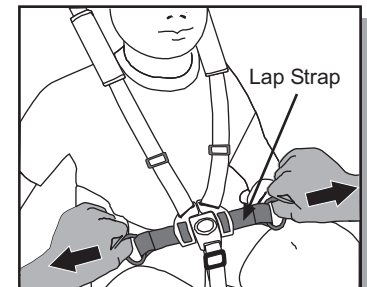

Fig. 20 Tighten Lap Straps.
- f. Tighten lap straps. Adjust lap straps to fit snug and be comfortable (Fig. 20).